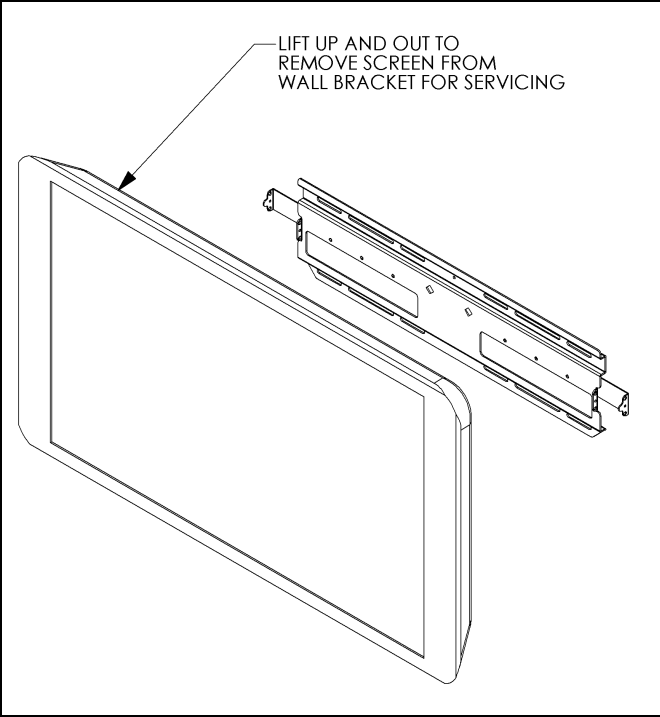

Figure 9
1. Place the display on the wall plate (10) by hooking the hooks of the brackets (20 and 30) in the top of the wall plate (see Figure 9).
1. If applicable, remove the self tapping screws and/or padlocks from both sides of the wall plate. This hardware provides security. (See Figure 9)
3. With an assistant, lift the display up and off the wall plate to remove the display from the wall. (See Figure 9)